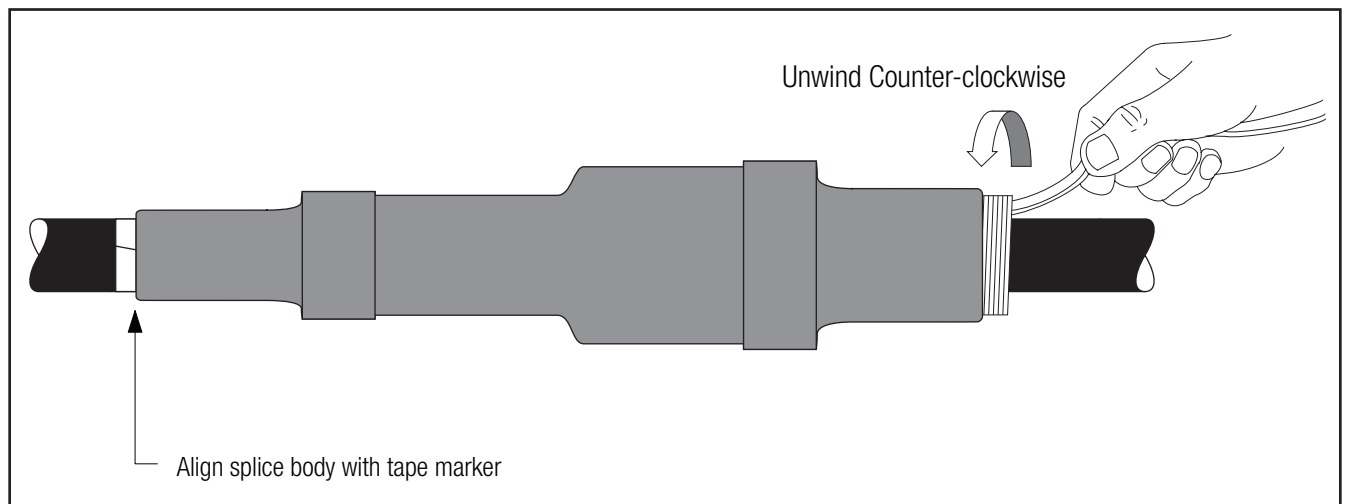

Figure 16
4.5 Position the splice body over connector area, aligning end of the splice body (not the core) at the center of the tape marker. Slowly start to remove the splice core by pulling and unwinding the loose core end counterclockwise, allowing only 1/4" (6 mm) of the splice to shrink onto the tape marker. Carefully slide the splice body off the tape marker by pulling and twisting until the entire tape marker is exposed. Continue removing the core to complete the splice body installation (Figure 16).